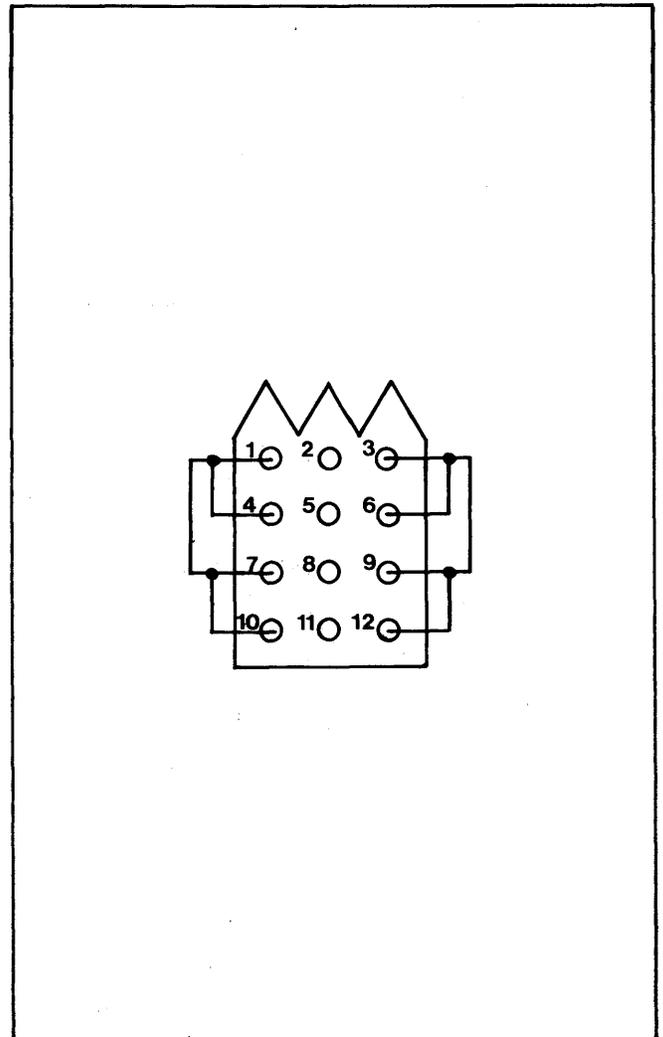

Figure 6-5. P20 Jumper 1880 5481
4. Insert jumper plug into J20 (1880 5481), see figure 6-5.